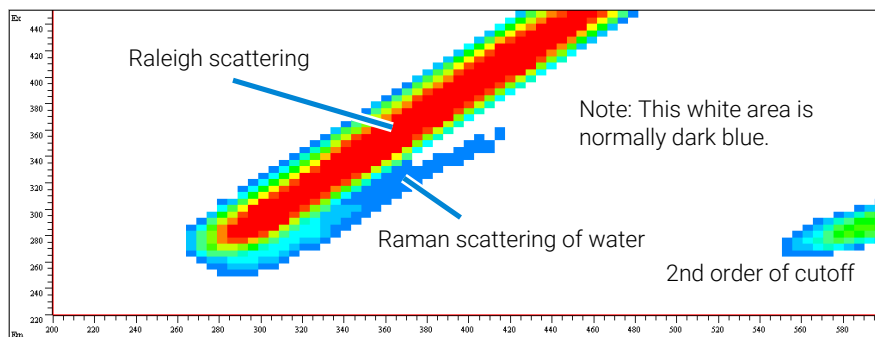

Figure 41: Fluorescence Scan of Water
- 4 Define a data file name and take a fluorescence scan. After the scan is completed, the isoabsorbance scan results appear, see Figure 41 on page 104.